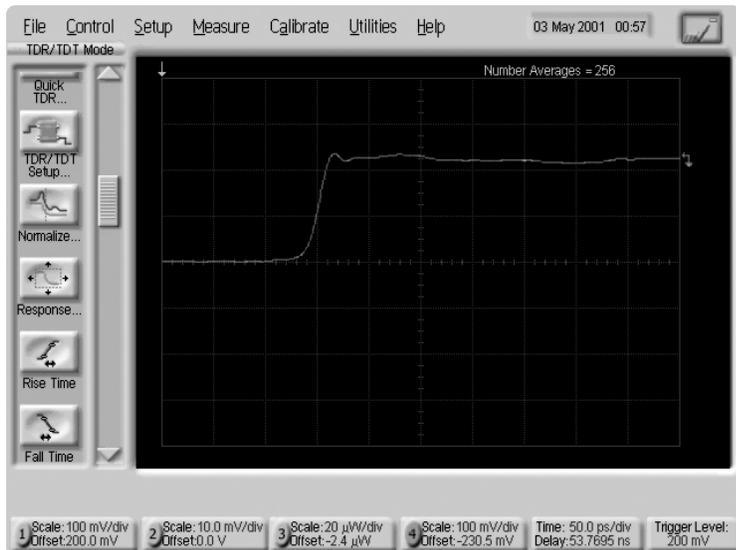

Figure 9. Expanded short circuit waveform.
8. Reattach the short circuit termination to the TDR reference port. You have now identified which edge in Figure 9 is affected by this short circuit. Now adjust the “Timebase” position/delay knob to move the incident test pulse edge (i.e. the first negative edge) off of the screen to the left. Position the positive edge from the short circuit close to the left edge of the screen. Change the horizontal scale to 50 ps/div. Reposition the positive edge reflection from the short circuit to the third division from the left on the graticule as shown in Figure 9.